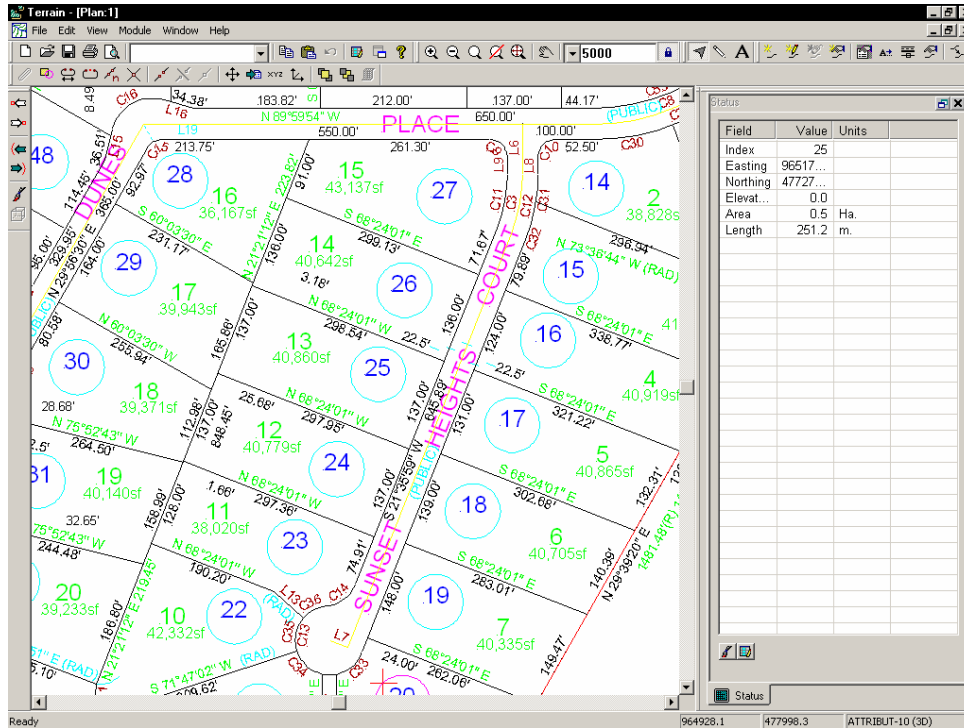

Figure 5.1: Imported DXF File
5. Zoom in with the Magnify  button to examine the details of the legal plans as shown in Figure 5.1.